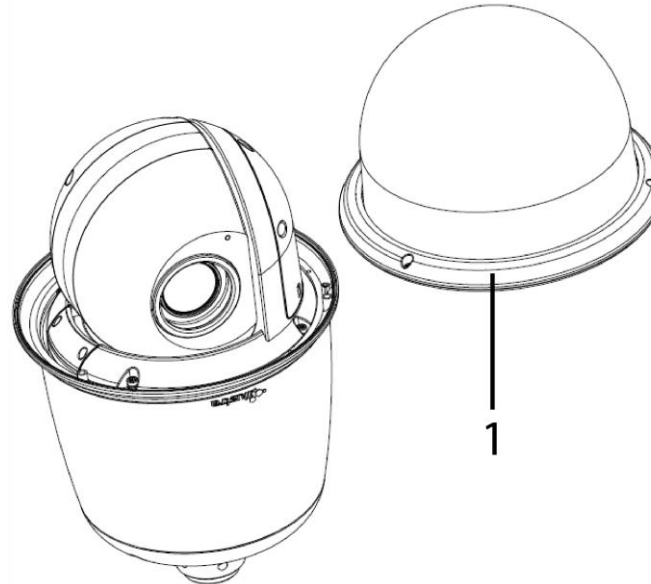

Figure 3
- B. Carefully remove the bubble unit (1) (Figure 3)